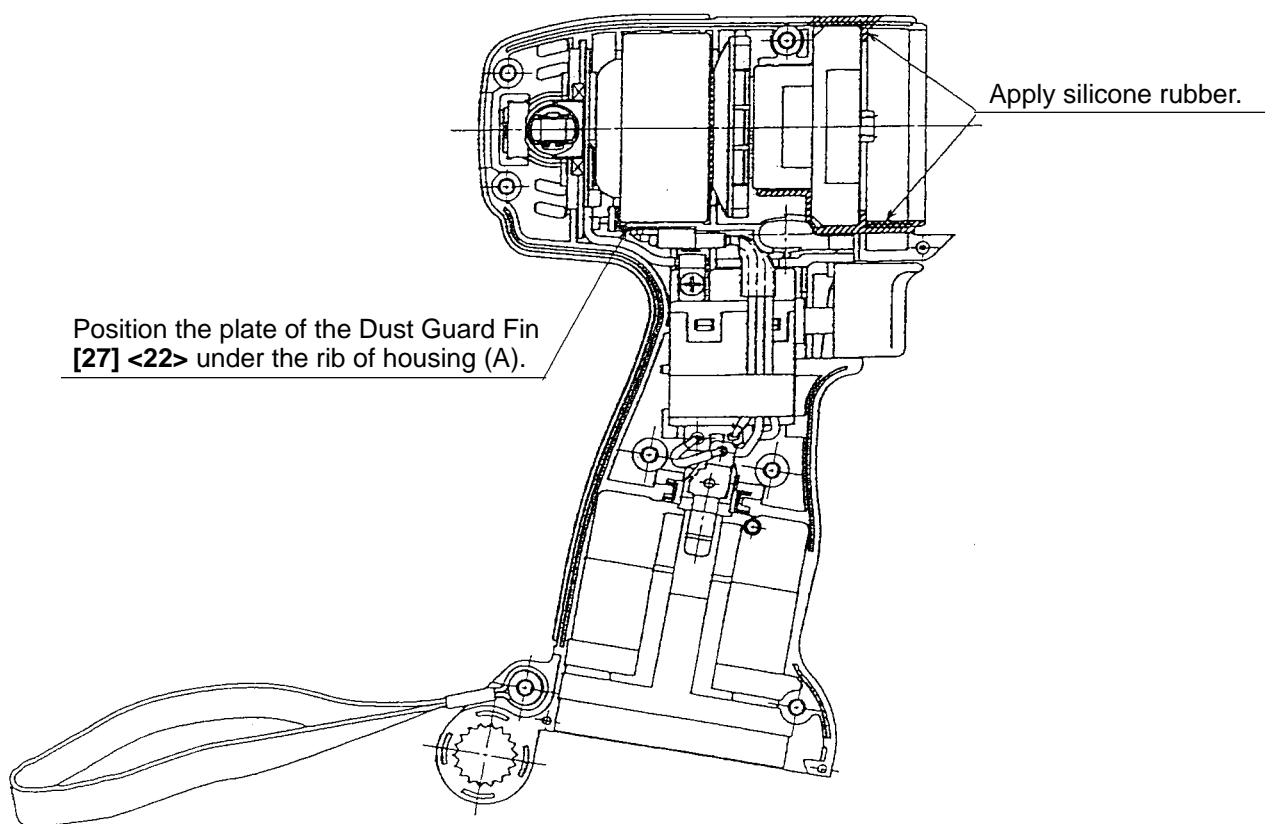

Fig. 13
- Position the plate of the Dust Guard Fin [27] <22> under the rib of housing (A) (see Fig. 13).
(Note) The temperature of the FET may be high if the silicone grease is not applied. Make sure that the three internal wires from the FET are passed above the DC-Speed Control Switch [36] <31> (see Fig. 13).
(2) Mount the Strap [41] <36> to housing (A) and apply silicone rubber (ThreeBond 1211) to housing (A) as shown in Fig. 13. Mount housing (B) to housing (A) and secure them with seven Tapping Screws (W/Flange) D4 x 20 (Black) [31] <26>. Wipe the silicone rubber coming out of the housing with a cloth.